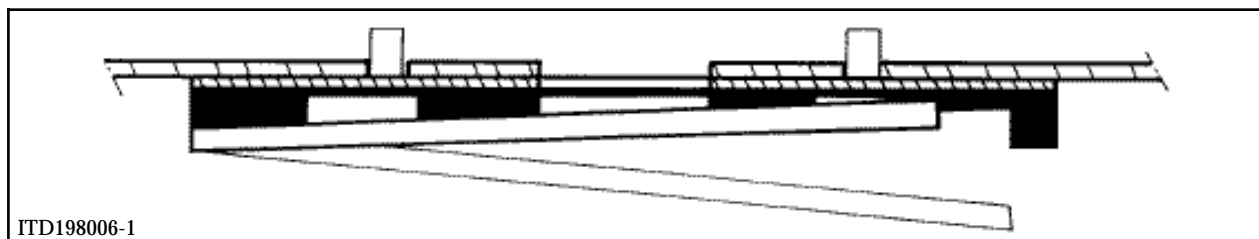

Fig. 1
- . if a noise can be heard, the end of the suspension spring is no longer in its retainer and is positioned between the two sections of the spring support (**Fig. 1**);